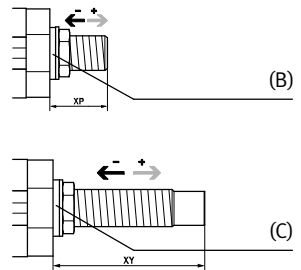

Fig. 10
- Lubricate the new cushioning component (e.g. with LUB-KC1) and mount it (for DRRD-...-P). Use new sealing discs (→ (B) in Fig. 10), if required
- Replace shock absorber (for DRRD-...-Y9/Y10/Y14). Use new sealing discs (→ (C) in Fig. 10), if required.